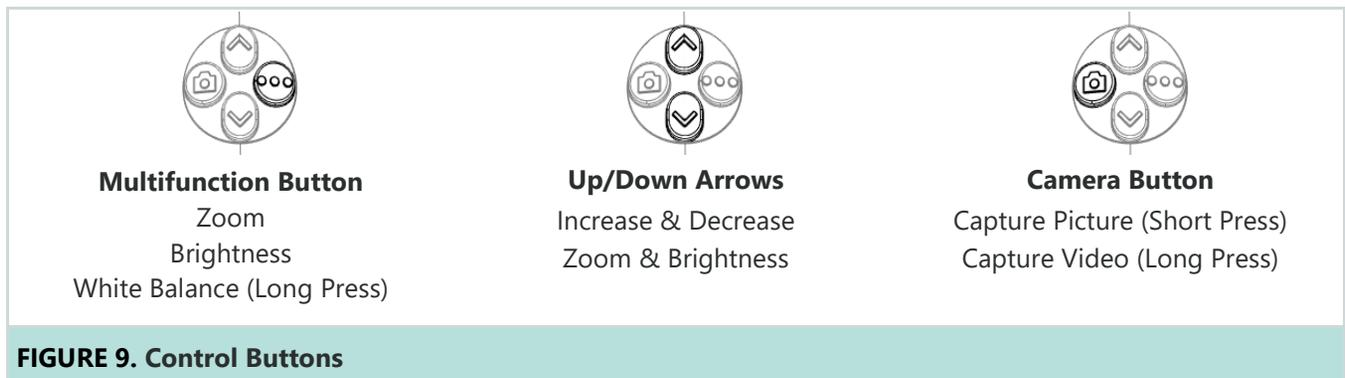

FIGURE 9. Control Buttons
Before checking or adjusting White Balance, ensure that the Camera Head is attached to an endoscope, the light source is connected to the ACMI snap-in groove on the light post of the endoscope, and the Camera Head is powered on and transmitting video to the connected Surgical Display (see FIGURE 9).
5. Press and hold the multifunction button until the white balance icon (see FIGURE 9) appears on the video monitor in the lower right corner, and an audible beep sound is made.